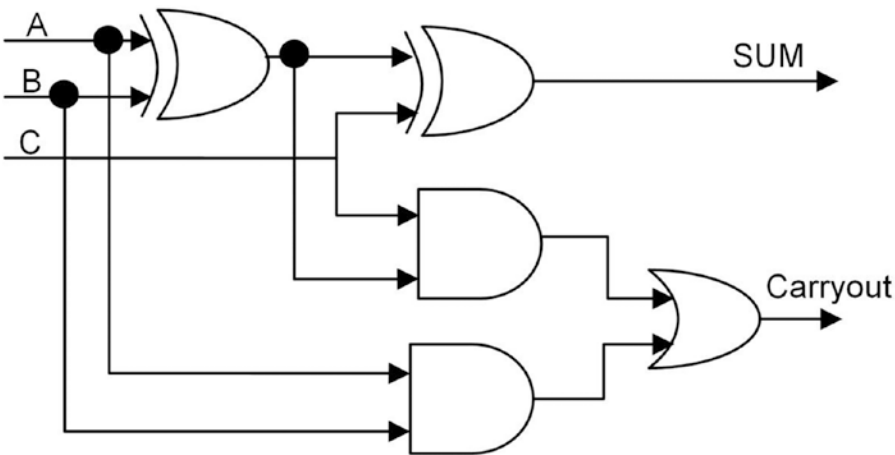

Figure 6-5. Full Adder block diagram
2. Implement a 1-bit full adder. It has three inputs, A, B, and C, and two outputs, SUM and Carryout. Go to google 1-bit full adder to get your block diagram. Hints: You only need to use five gates for this design or Figure 6-5.
2. Full Adder block diagram (Figure 6-5) and digital design.